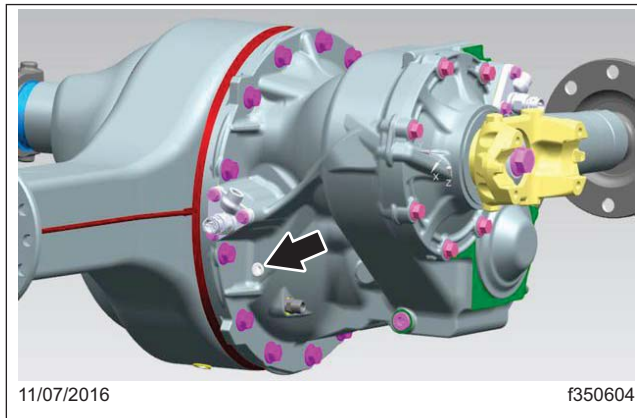
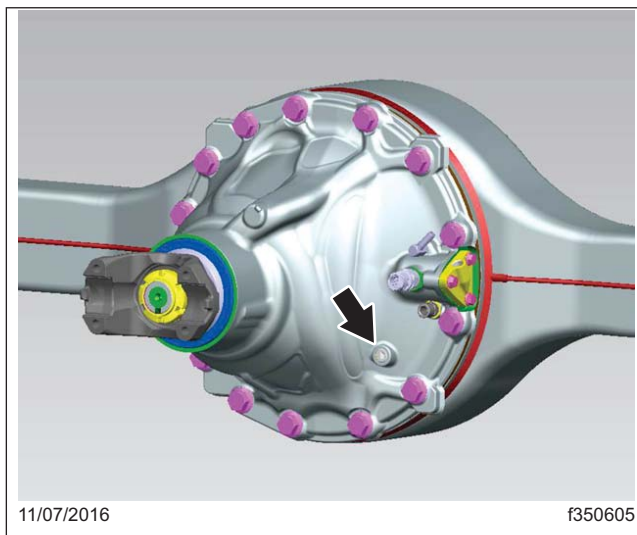

Fig. 3, Detroit™ New Final Drive Forward Axle, Oil Fill Location
Fig. 4, Detroit™ New Final Drive Rear Axle, Oil Fill Location
2. Clean the fill plug and the area around it. In the carrier housing, remove the plug from the oil fill hole. See Fig. 3 for the forward axle, and Fig. 4 for the rear axle.